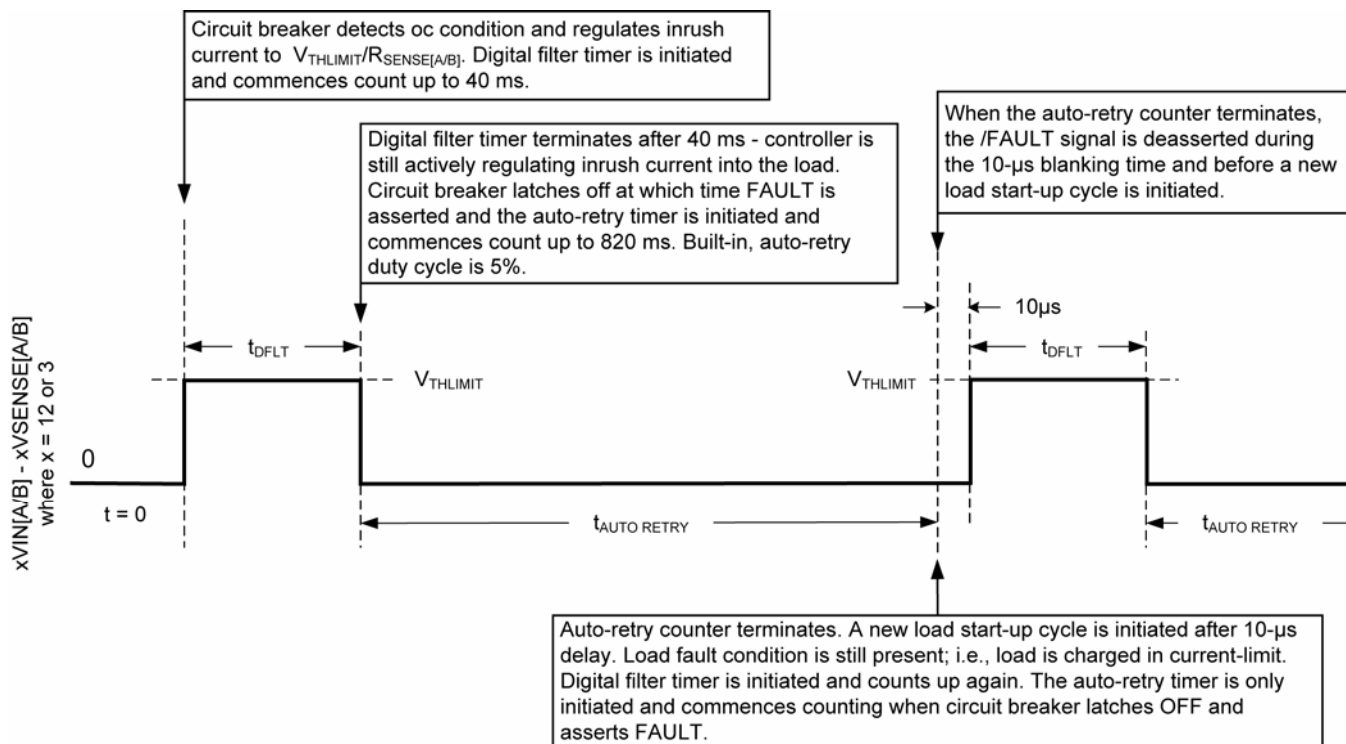

Figure 7. MIC2342R Auto-Retry Timing Diagram and Operation in Current-limit
In very cost-sensitive applications, the system design engineer can save the cost of the (2) external CFILTER[A/B] capacitors by using only the digital filter and/or the Auto-retry delay counters. This mode is automatically invoked by connecting the MIC2342 or the MIC2342R's CFILTER[A/B] pins directly to AGND. In this configuration, the primary OC detectors' response time  $t_{FLT}$  is equal to  $t_{DFLT}$  (or 40ms as above) In Figure 7,